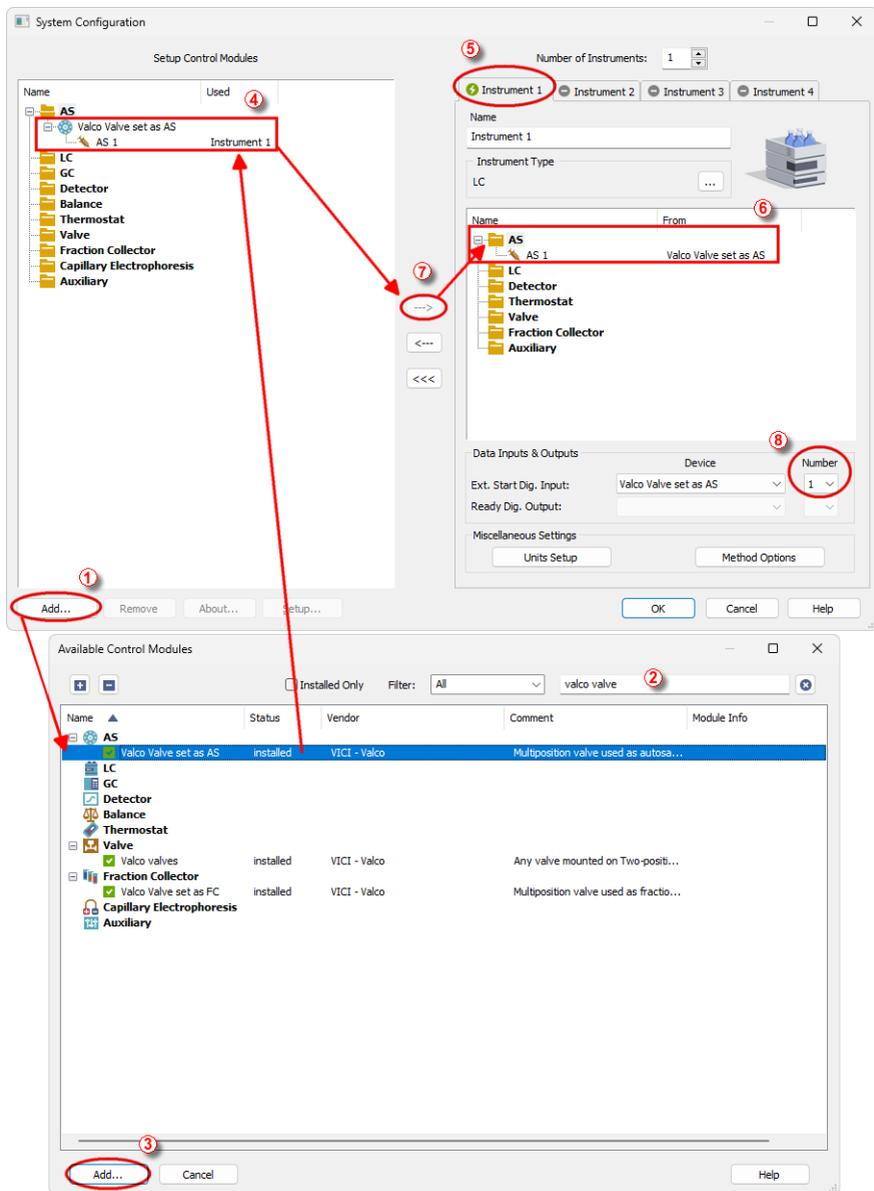

Fig. 3: System Configuration
- Press the *Add* button ① (see **Fig. 3** on pg. 4.) to invoke the *Available Control Modules* dialog.
- You can specify the searching filter ② to simplify the finding of the driver.
- Select the correct item and press the *Add* ③ button.